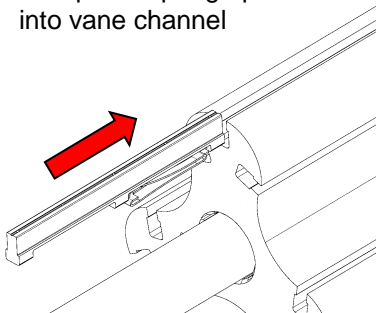

Figure 9
1. Compress the first spring in the cutout on the bottom of the vane, Figure 9.